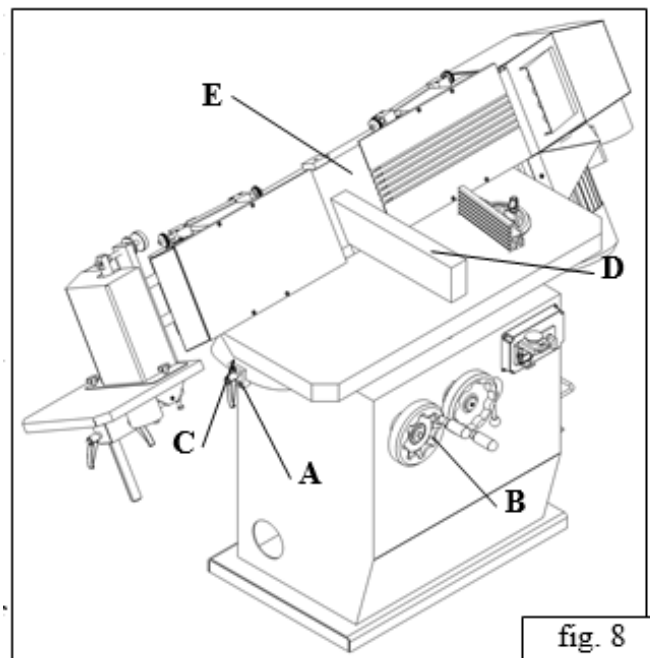

fig. 8
- Release the handle **A** (fig. 8).